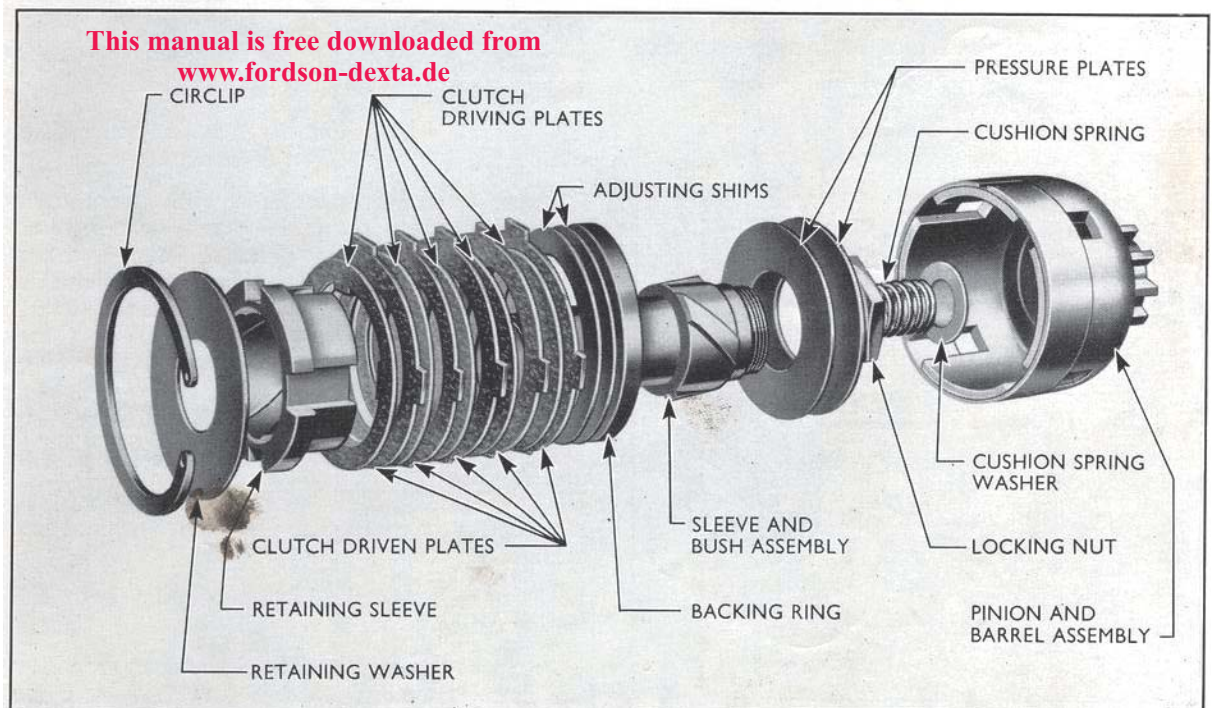

Fig. 12
2. Replace the clutch plates on the retaining sleeve and refit this assembly with the adjusting shims and backing ring on to the sleeve and bush assembly. Care should be taken to ensure that the clutch plates are in the correct order (see Fig. 12) and that the ground face on the backing ring is adjacent to the adjusting shims. The clutch plates and helices on the inside of the retaining sleeve should be smeared with a thin coating of high melting point grease before assembly.